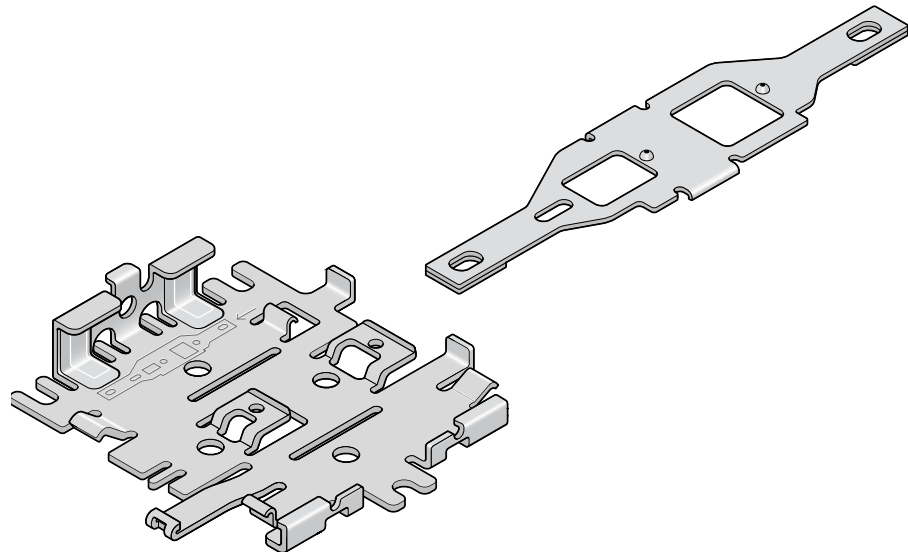

Figure 2-7: Mounting bracket and compatibility bar orientation
2. Orient the mounting bracket and the compatibility bar as shown in Figure 2-7.